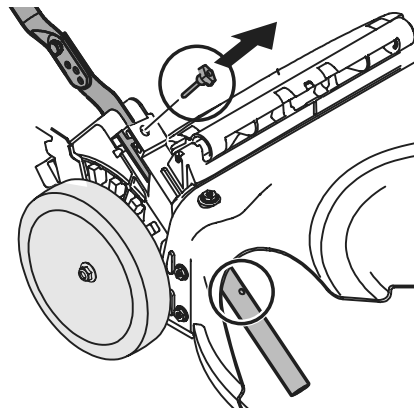

Figure 3
4. Remove T-bolts from the handle brackets (Figure 3).
5. Pull upward on the handle (Figure 4) until holes in lower handle line up with holes in handle brackets (Figure 3 deck cutaway).